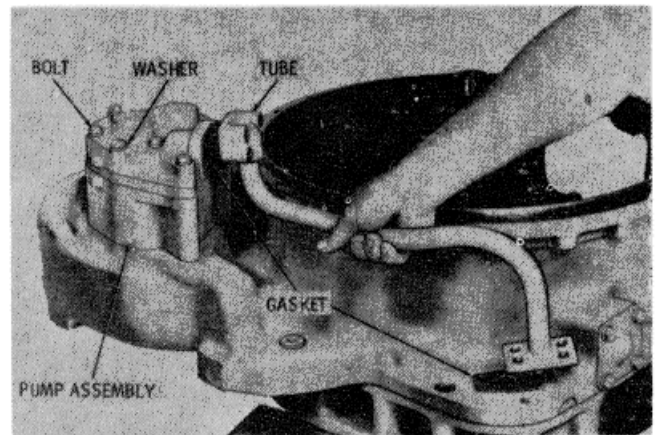

Figure 15-52. Removing Scavenge Oil Discharge Tube
1. Remove the eight bolts and lockwashers retaining the scavenge oil discharge tube to the pump and converter housing assemblies (Figure 15-52). Remove the tube and two gaskets.